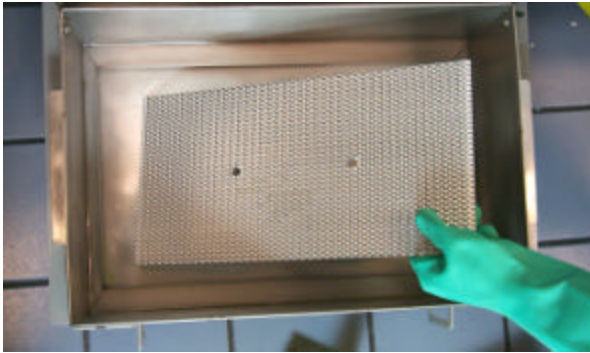

Fig: 12-4
7. Remove screen from filter pan. **Fig: 12-4**